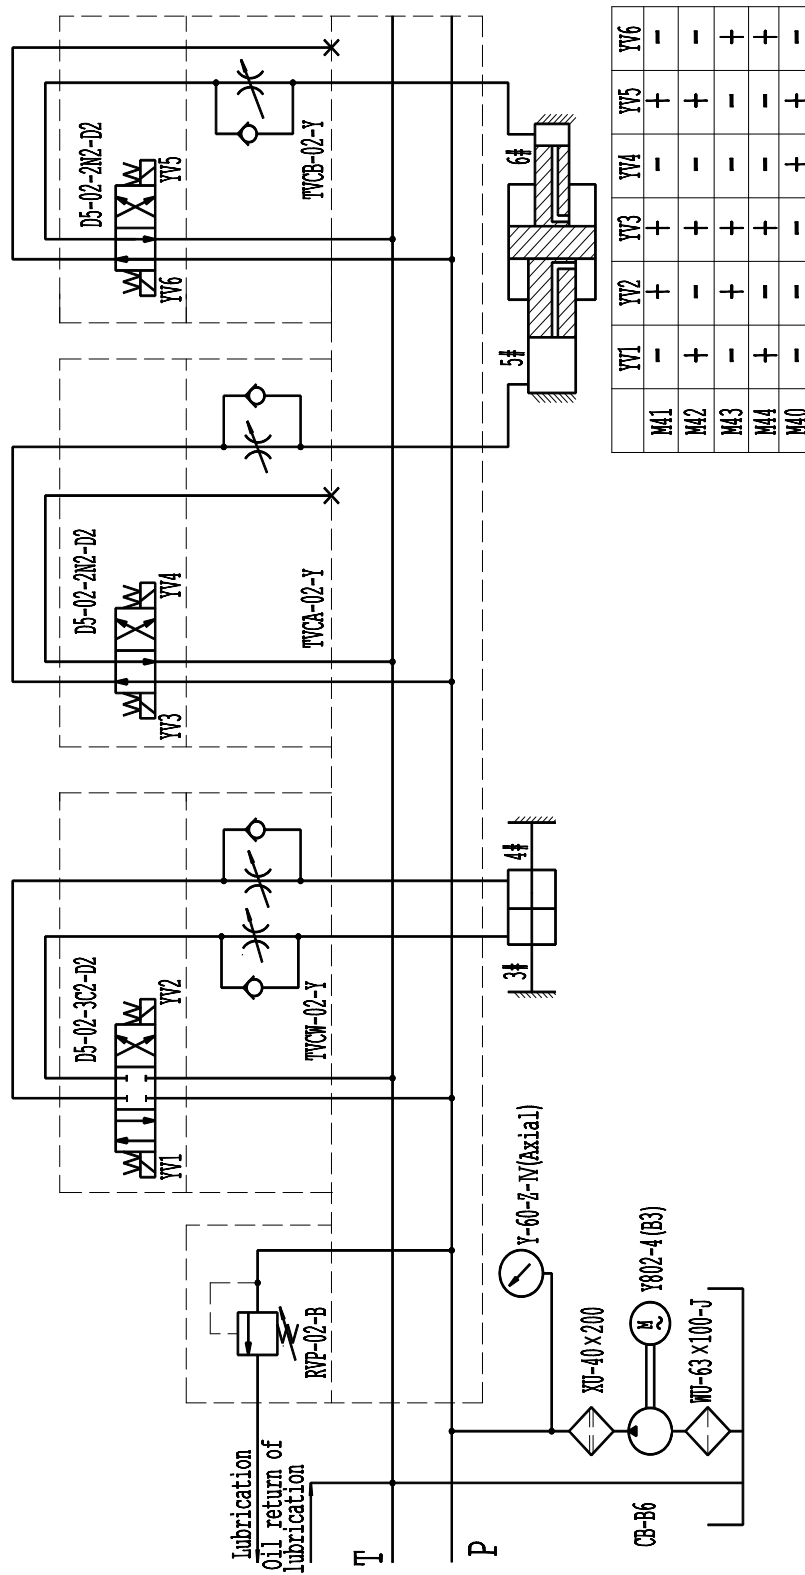

Fig. 6 Change speed of spindle and lubricating principle
- For the principle of the whole hydraulic system, refer to the hydraulic principle diagram (Fig. 6).